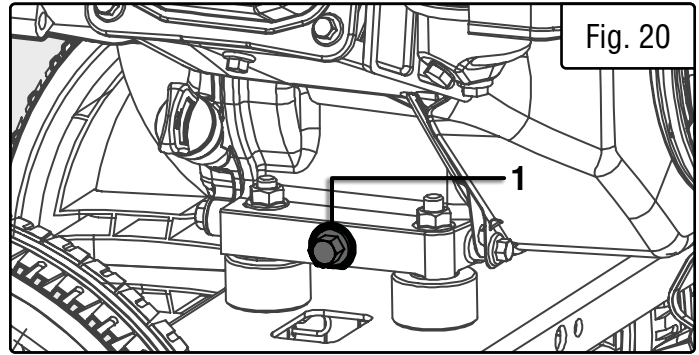

Fig. 20
2. Place an oil pan on the ground to catch oil. Remove the oil drain bolt (Fig. 20 - 1) then tilt pressure washer back and to the side to empty out the oil from the crankcase.